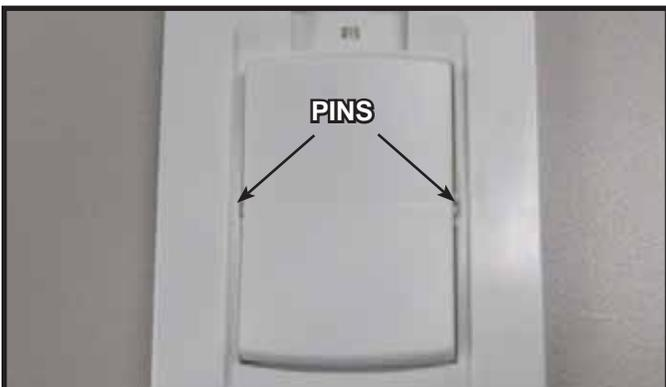

Figure 3. Battery Installation
3. Ensure that ON/OFF button is fully engaged by pressing the side pins down. See Figure 3.